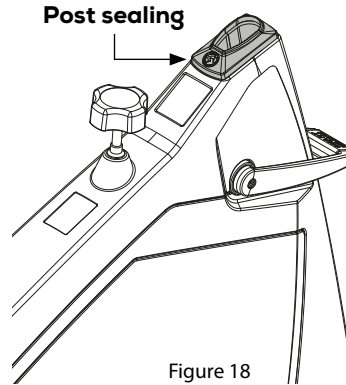

Figure 18
3) Remove front and back post sealings. See figure 18.